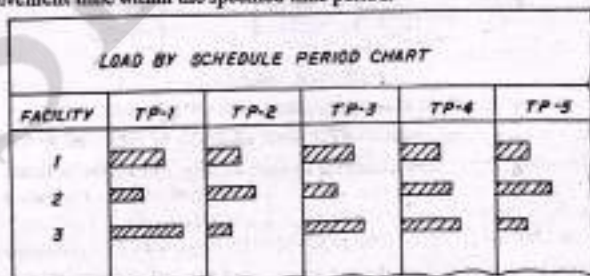

Fig. 7.22. Load by schedule period chart.
(c) **Loading by Schedule Period.** The task is broken into different operations which will be required to turn raw material into finished product. A Gantt type of chart (See Fig. 7.22) is employed for scheduling purposes. The rows, mark different facilities and each column denotes a time period (TP). There are as many time periods as the number of operations. The first operation is carried out in the time period-1, second operation in time period-2 and so on. It is however not specified that, within the timeperiod, when the operation will start and finish; but the operation is very much supposed to be completed during that particular time period. The shop supervisor does the detailed scheduling within the framework of the specified time period.